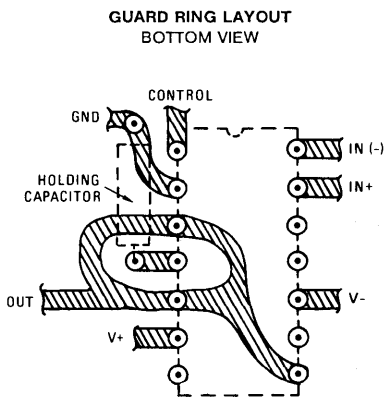

FIGURE 7.
- The method used to reduce leakage paths on the P.C. board and the device package is shown in Figure 7. This guard ring is recommended to minimize the drift during hold mode.